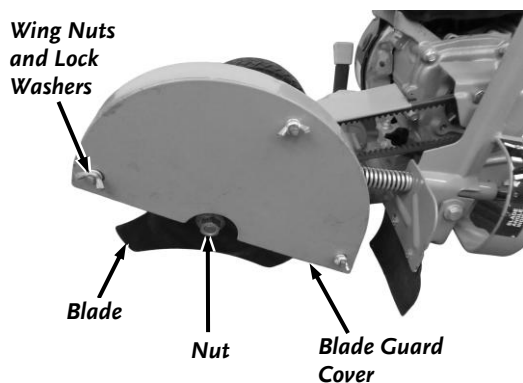

Figure 25
1. Remove the three Wing Nuts and Lock Washers to remove the Blade Cover (**Figure 25**).